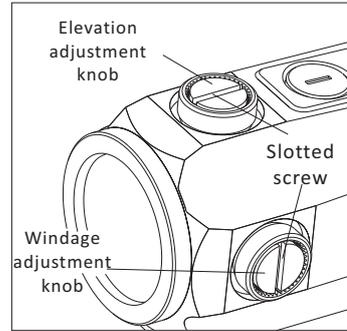

Fig 5
1. On top of the sight is the elevation adjusting knob, the windage adjusting knob is on the right side (see Fig5). The sight has been factory adjusted for approximate zero.